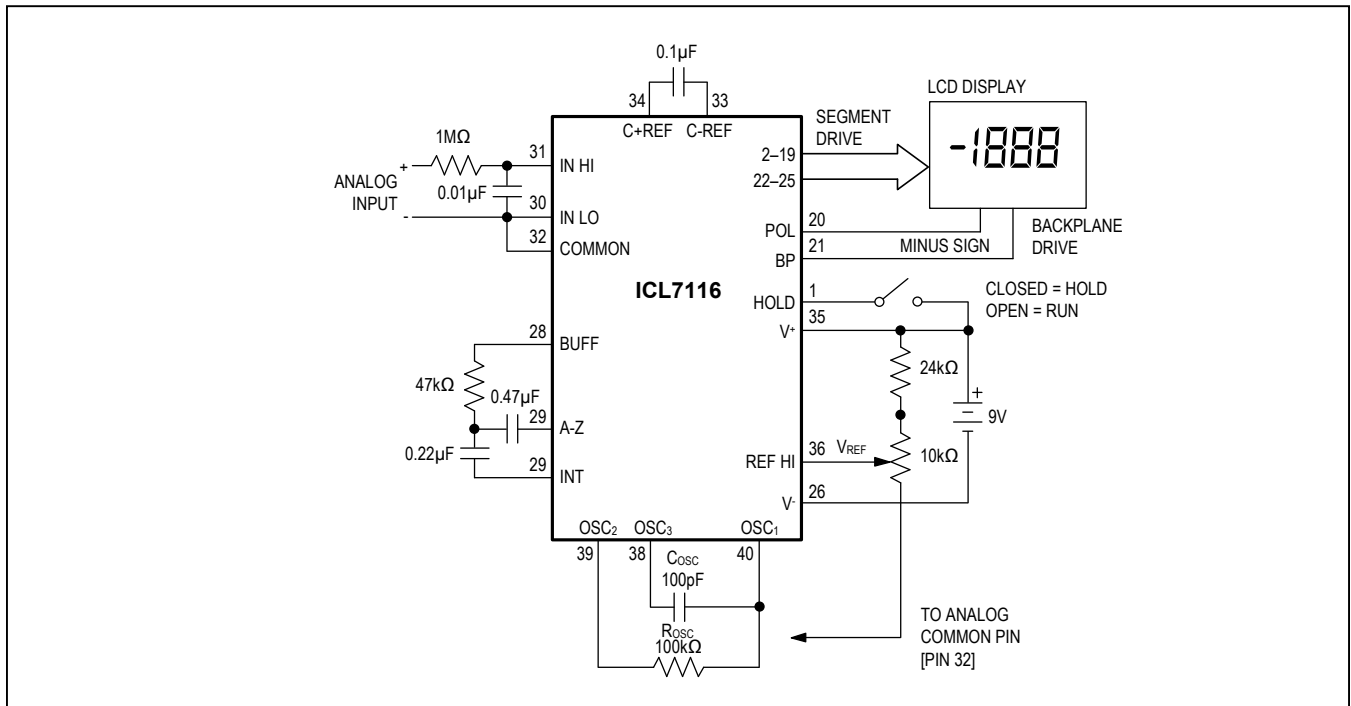

Figure 1. Maxim ICL7116 Typical Operating Circuit, 200mV Reference
**Note 3:** Unless otherwise noted, specifications apply to both the ICL7116 and ICL7117 at TA = +25°C, fCLOCK = 48kHz. ICL7116 is tested in the circuit of Figure 1. ICL7117 is tested in the circuit of Figure 2.
(Specifications below satisfy or exceed all ‘tested’ parameters on adjacent page V+ = 9V, TA = +25°C, fCLOCK = 48kHz; test circuit = Figure 1 (ICL7116), Figure 2 (ICL7117), unless otherwise noted.)
Specifications below satisfy or exceed all 'tested' parameters on adjacent page  $V^+ = 9V$ ,  $T_A = +25^\circ C$ ,  $f_{CLOCK} = 48kHz$ ; test circuit = Figure 1 (ICL7116), Figure 2 (ICL7117), unless otherwise noted.)
**Note 7:** Test condition is  $V_{IN}$  applied between pins IN HI and IN LO i.e., 1M $\Omega$  resistor in Figure 1 and Figure 2.
**Note 11:** 1M $\Omega$  resistor is removed in Figure 1 and Figure 2.
input. When the Hold input is connected to V+, however, the display latch pulse is inhibited, and the the display latches are not updated. The Hold input has a 70kΩ pull-down resistor to Test (ICL7116) or Ground (ICL7117) and the Hold input will be pulled low if it is left open. When Hold is low the ICL7116/ICL7117 updates the display at the end of each conversion. The Hold input is CMOS compatible and can also be driven by a switch connected to V+ (Figure 1 and Figure 2) or by a PNP transistor.